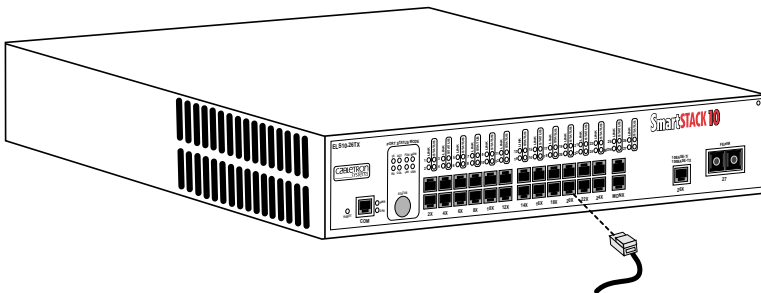

Figure 2-5. ELS10-26 Twisted Pair Connection
2. Refer to Figure 2-5. Connect the twisted pair segment to the ELS10-26 by inserting the RJ45 connector on the twisted pair segment into the desired RJ45 port.